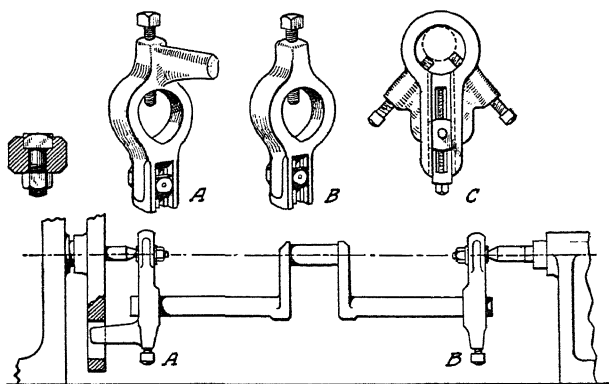

Fig. 33. Dogs with Adjustable Bearings Used for Turning Crank Pins in the Lathe
**Machining Crankshafts in Lathe.** It will be noted that the jig on the end of the crankshaft has centers provided. These centers are in line with the center of the crank pins. When performing the turning operation in the lathe, the shaft is mounted as shown in Fig. 33, which shows a form of jig or lathe dog used for mounting the crankshaft, with the crank pin centered, for the turning operation.